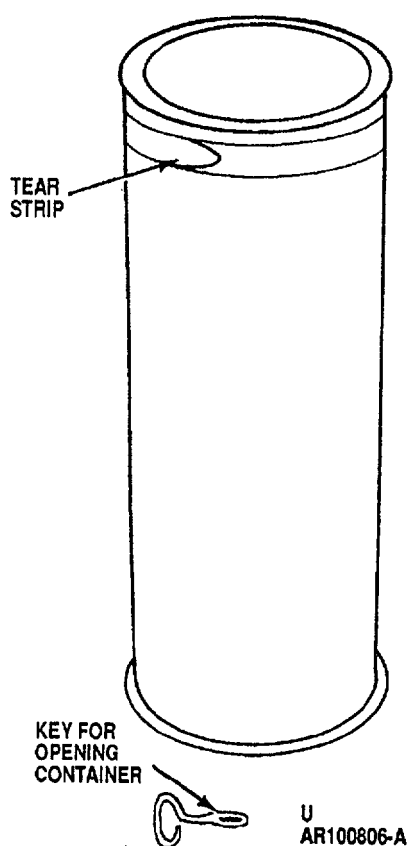
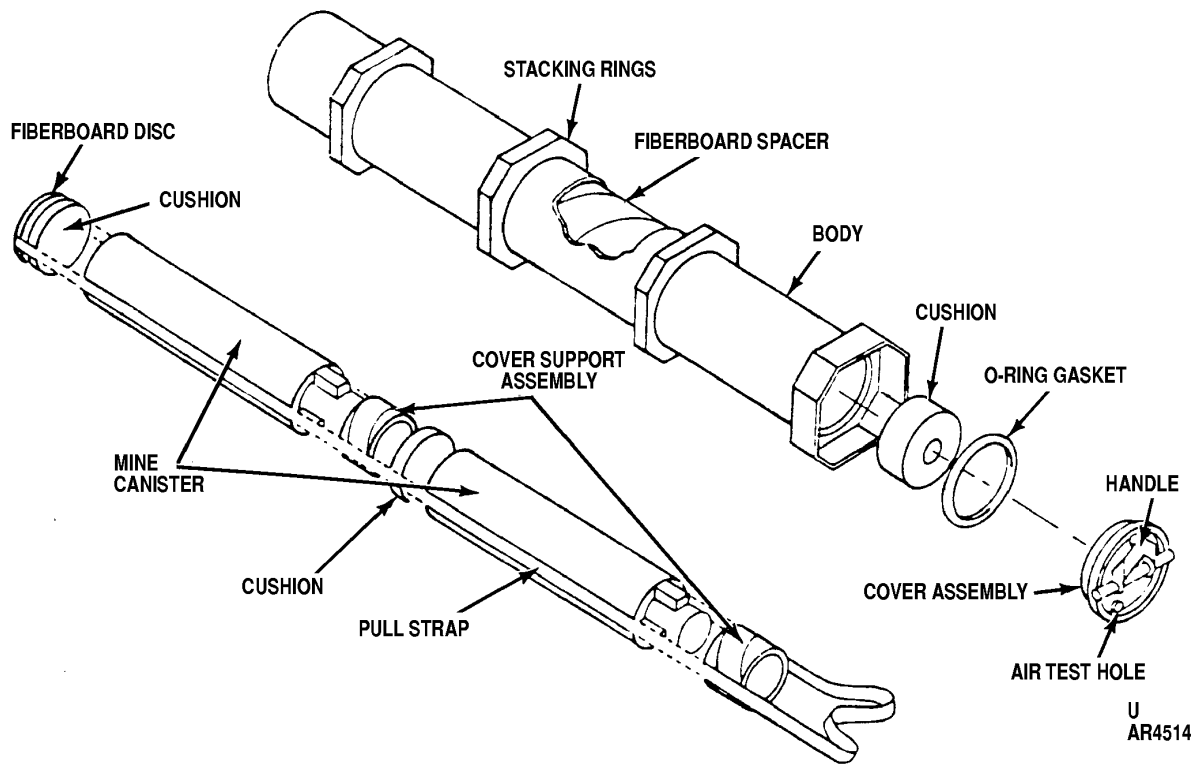

Figure 3-4. Ammunition metal container.
Figure 3-5. Mine canister metal container.
- (1) Cut barrier bag open along the edge with most excess material as close to seal as possible.
- (2) Cut or remove tape from inner container.
- (3) Open container and remove padding, if any.
- (4) Remove items. If all items are not removed, close and seal package following procedures in Chapter 4.
- g. *Ammunition Metal Container (fig. 3-4).*
- (1) Using key attached to container (or from another container), remove sealing strip.
- (2) Remove top of can.
- (3) Remove any padding from container.
- (4) Remove contents.
- h. *Mine Canister Metal Container (fig. 3-5).*
- (1) Cut metallic seals with pliers and remove.
- (2) Rotate cover and remove.
- (3) Remove cushion.
- (4) Untighten strap.
- (5) Pull strap and remove contents.